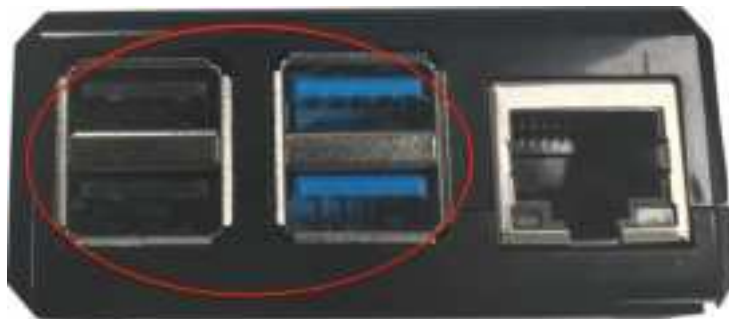

Figure 3 Data ports on Element-D
13. Plug the USB of the Connection Cable into the data port on the Element-D. The USB connector may be plugged into any USB port on the Element-D shown in Figure 3.